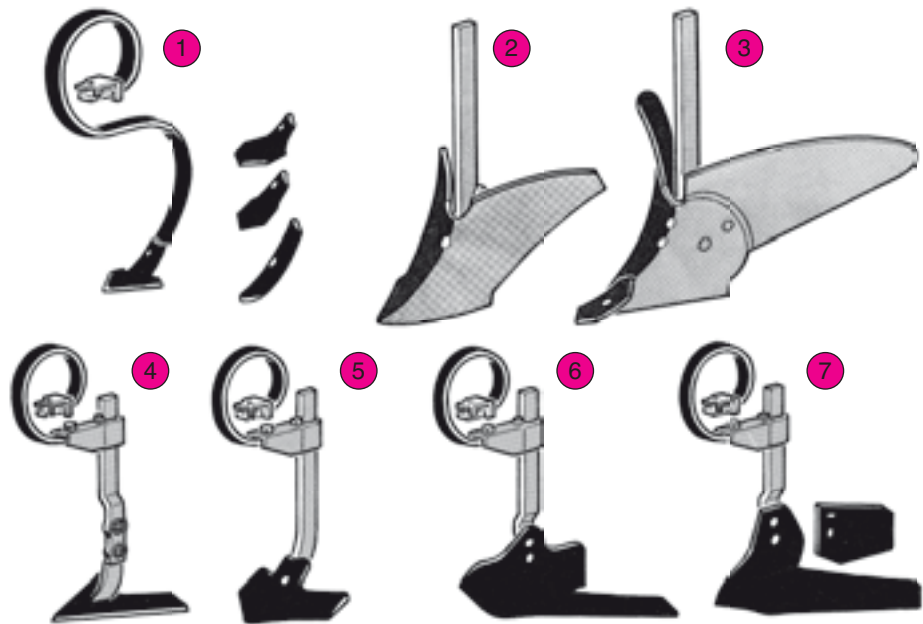

Fig. 27
• Pour bineuses SUPER-CROP SCD - Fig. 27
• For SCD SUPER-CROP cultivators - Fig. 27
• Per sarchiatrice SUPER-CROP SCD - Fig. 27